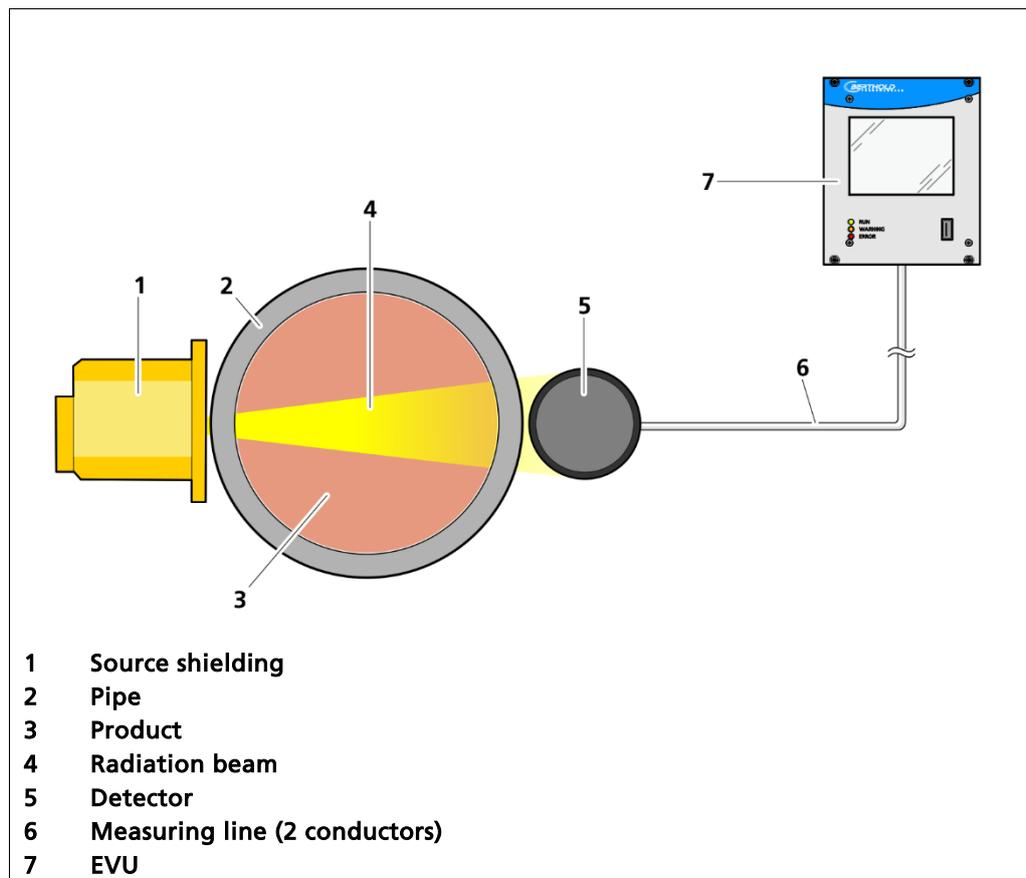

Fig. 1 Example measurement arrangement
These instructions concern the operation of the evaluation unit DuoXpert LB 475 (Fig. 1, item 7). The operation of other system components is part of the independent instructions of the respective system components.
The LEDs (fig.1, items 2-4) below the touch display show the current operating status of the EVU.